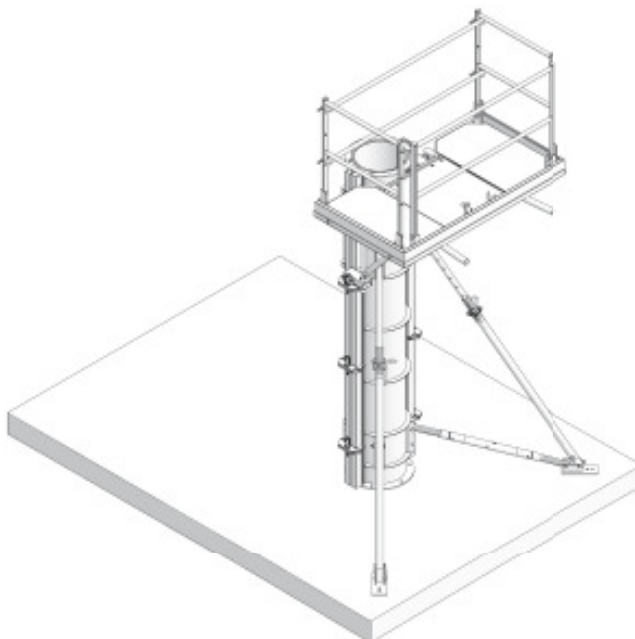

Fig. 9.2
2. Tightly connect both semi-circular column halves with M assembly locks (Fig. 9.2).